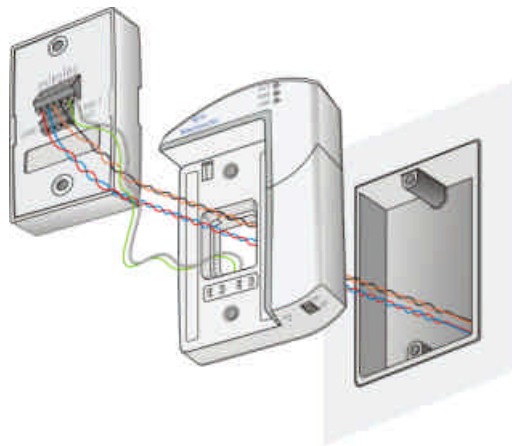

Figure 2.5 Connecting the Phone Wires to the *NetHome* Smart Outlet
6. Thread the phone wire pairs through the hole in the Wireless Access Point adapter from the back to the front, and connect each wire pair to a remaining terminal block connector P1, P2, or P3 in the rear panel of the *NetHome* Smart Outlet (refer to Figure 2.5).